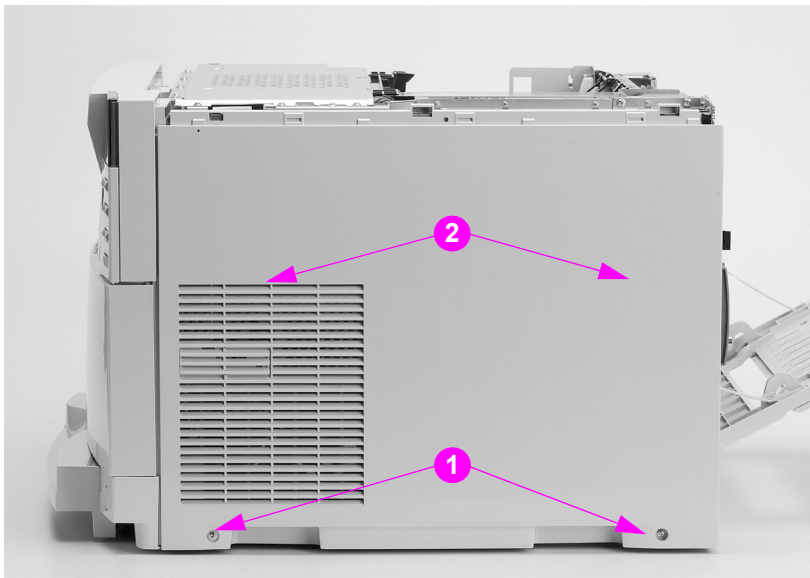

Figure 6-4 Right side cover removal and replacement
- 4 Remove the two screws shown in callout 1, Figure 6-4.
- 5 Carefully pull out the bottom of the cover, and disengage the two tabs located behind the cover (see callout 2, Figure 6-4) by sliding the cover to the rear. Lift the cover up and off.
When reinstalling the cover, ensure that the tabs on the inside of the cover (callout 2, Figure 6-4) are seated properly by pushing in firmly on the tabs while sliding the cover forward into position.